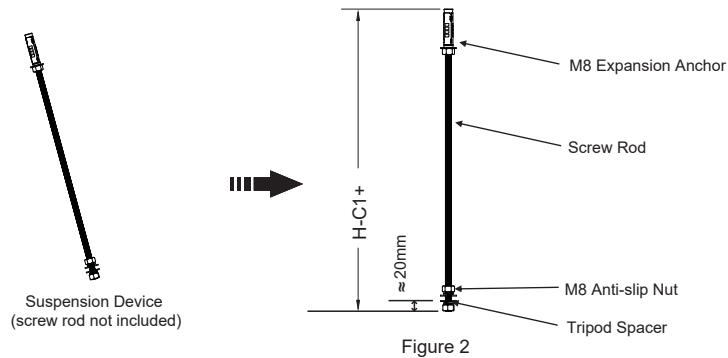

Figure 2
2. Assemble the suspension device using the parts in figure 2. Cut the rod (M8) to a length of: $H-C1+20\text{mm}/H-C2+16\text{mm}$, where H is the distance from the bottom surface of the concrete roof measured in the previous step to the bottom surface of the ceiling, and C represents the frame height. (For example: If H is 1000mm, and the suspension height is 156mm based on the installation method chosen, if choosing cover installation method, the screw length should be $H-C1+20\text{mm}=864\text{mm}$. If choosing flush installation, the screw length should be $H-C2+16\text{mm}=860\text{mm}$), determine the installation distance of the frame.